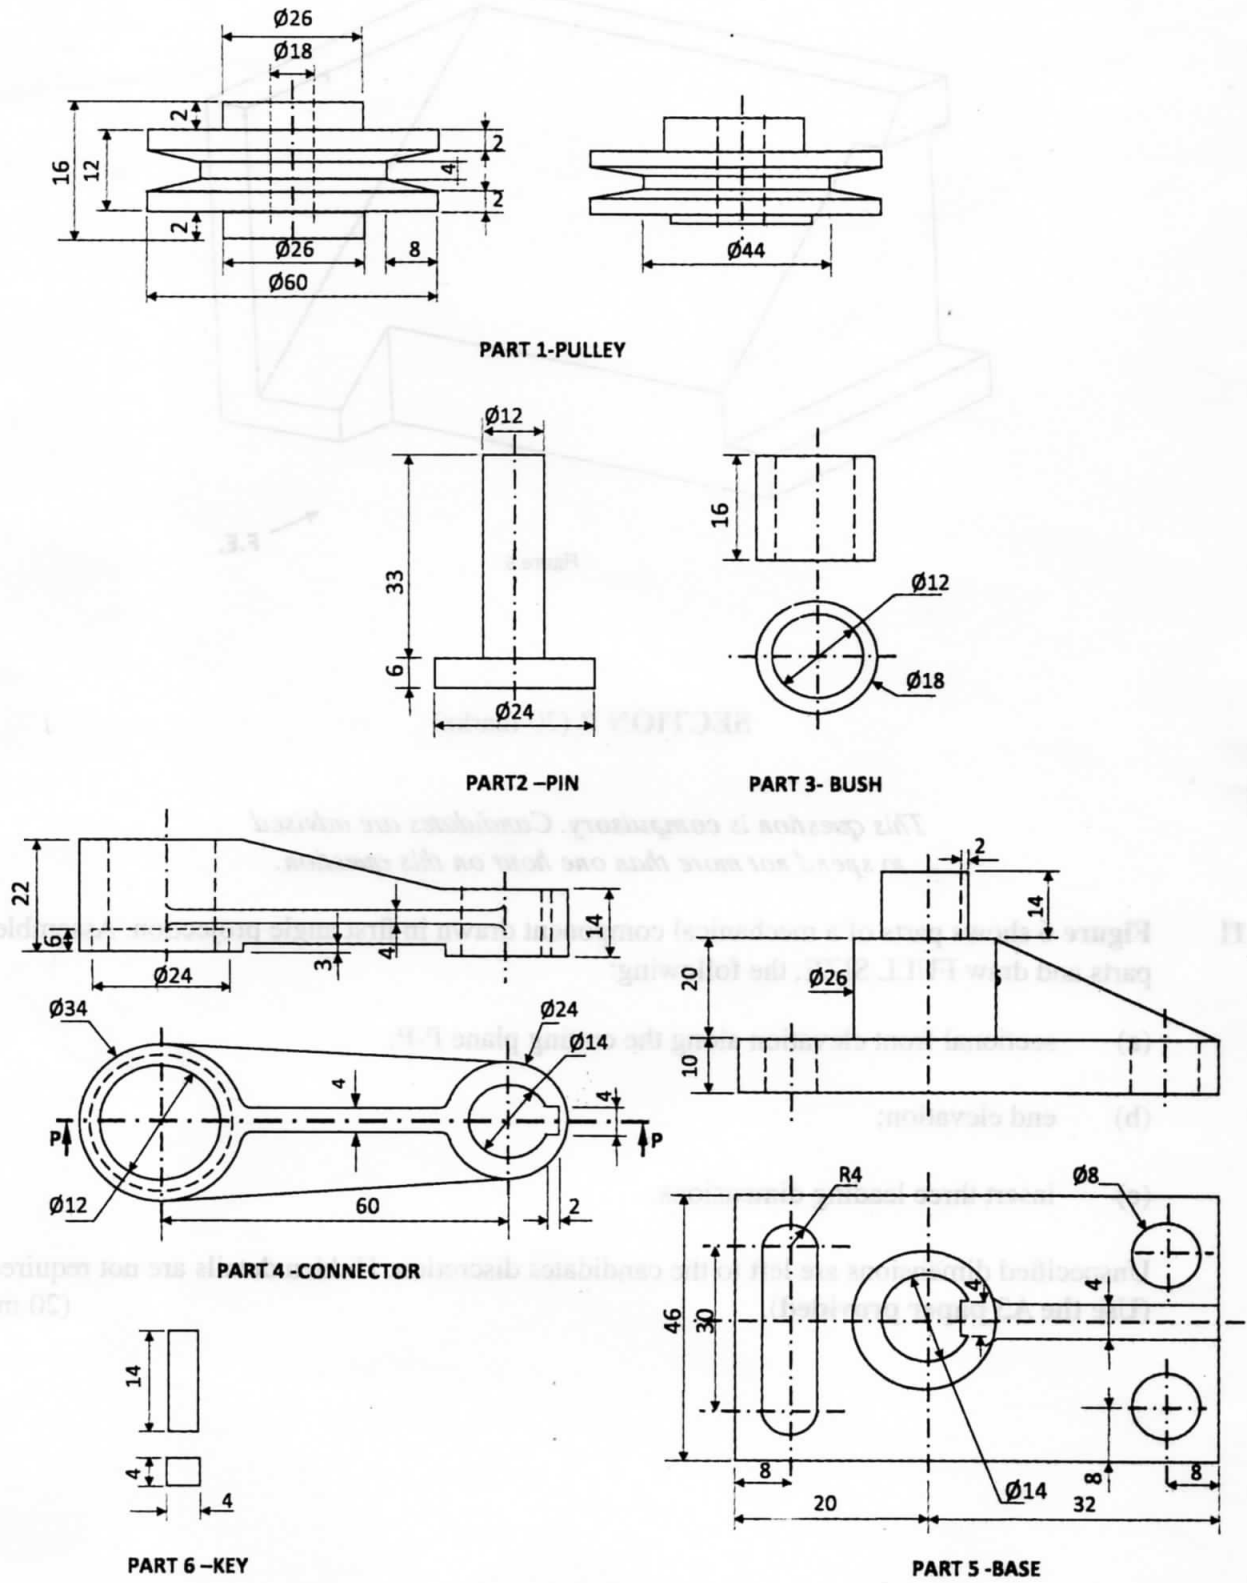

Figure 6
- 11 **Figure 6** shows parts of a mechanical component drawn in first angle projection. Assemble the parts and draw FULL SIZE, the following: